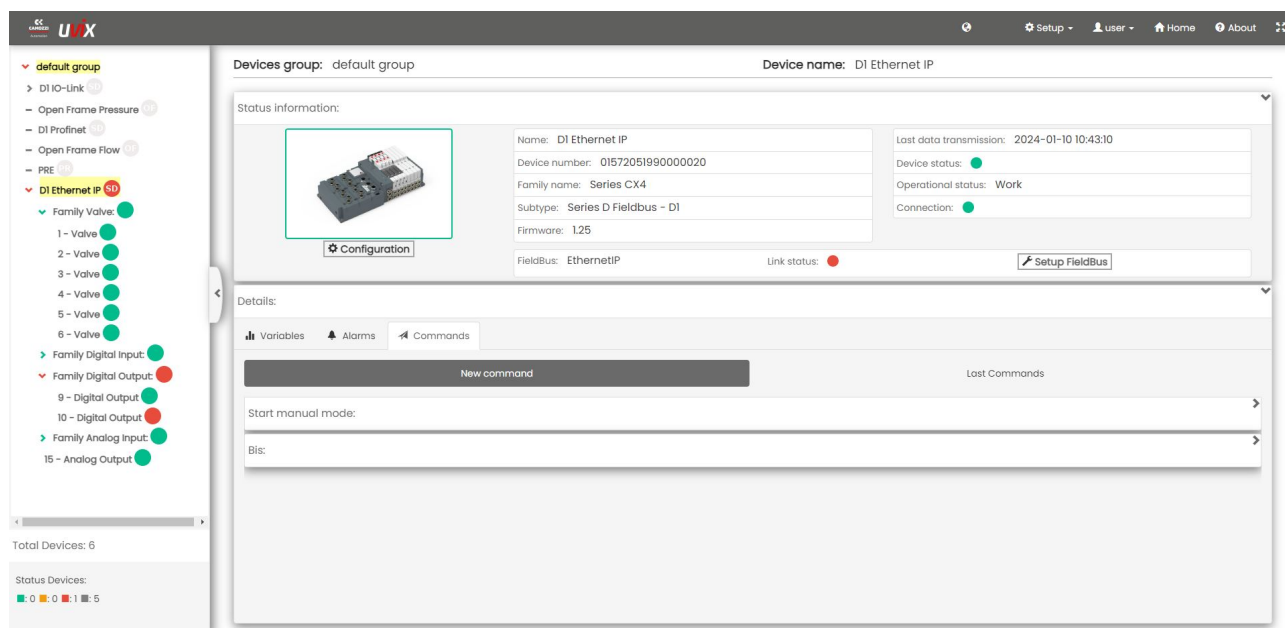

Figure 6.38: Commands window
- Commands: Manages commands to the devices (Figure 6.38).